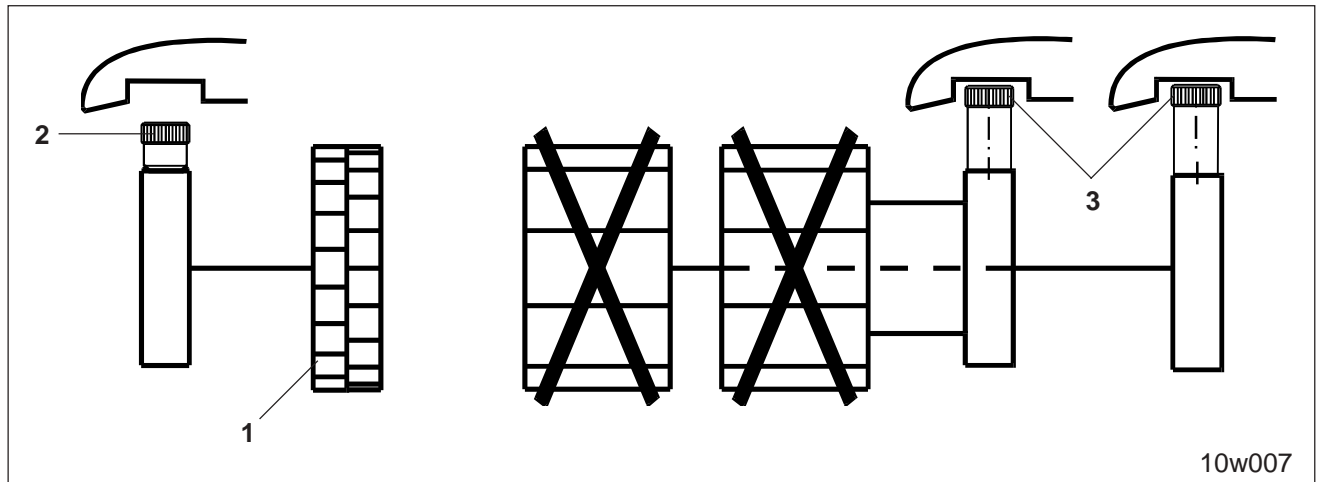

Fig. 9.6
When sowing with the fine seed metering wheel (Fig. 9.6/1)
- Drive **in** thumb bolt (Fig. 9.6/2) of the fine seed metering wheel
- Drive **out** thumb bolt (Fig. 9.6/3) of both main seed metering wheels.